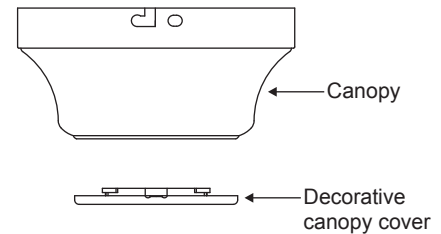

Figure 8
Step 2. Remove the decorative canopy cover from the canopy. (Fig. 8)